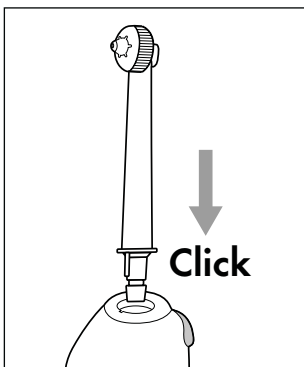

Fig. 2
- ◆ Fit a nozzle attachment **2** onto the hand unit **4**. Press the nozzle attachment **2** into the opening until the nozzle attachment **2** audibly engages in the hand unit **4**. Ensure that the guide tab on the lower end of the nozzle attachment **2** is aligned with the corresponding groove in the opening on the hand unit **4** (see Fig. 2).